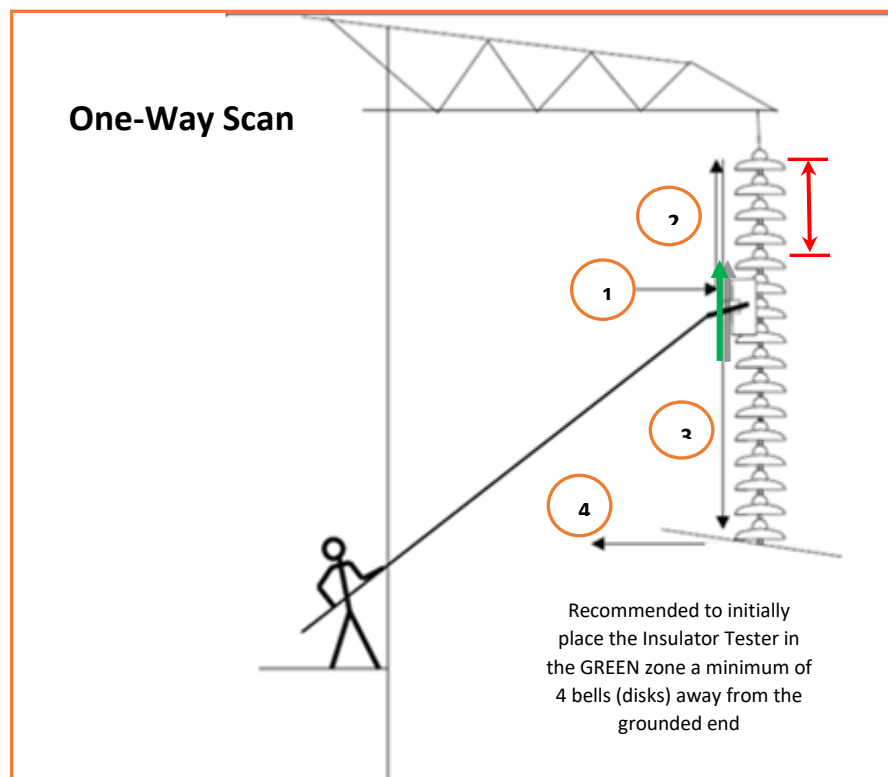

Figure 15
- **One-Way scan:** On Vertical string configuration, it is easier to perform a One-Way scan because the backward scan requires too much force to move the sled upward while the hot-stick is horizontal. See Figure 15
1. Following the instructions of the Tablet Operator, press the Push-button on the Probe (See Figure 14) and place the Insulator Tester a minimum of four (4) bells (disks) away from the grounded end. See the **Green Zone** in Figure 15.